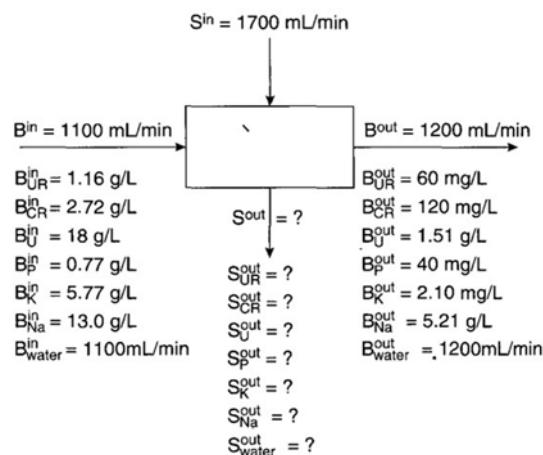

Figure E8.7b
This example focuses on the plasma components of the streams: water, uric acid (UR), creatinine (CR), urea (U), P, K, and Na. You can ignore the initial filling of the dialyzer because the treatment lasts for an interval of two or three hours. Given the measurements obtained from one treatment shown in Figure E8.7b, calculate the grams per liter of each component of the plasma in the outlet solution.